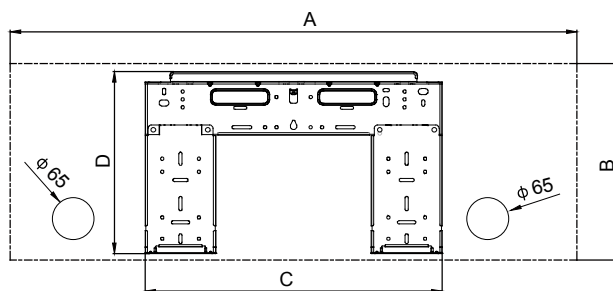

Fig. 4.2
2. Place the mounting plate against the wall in a location that meets the standards in the Select Installation Location step. (Mounting Plate Dimensions as the following Fig.4.2)